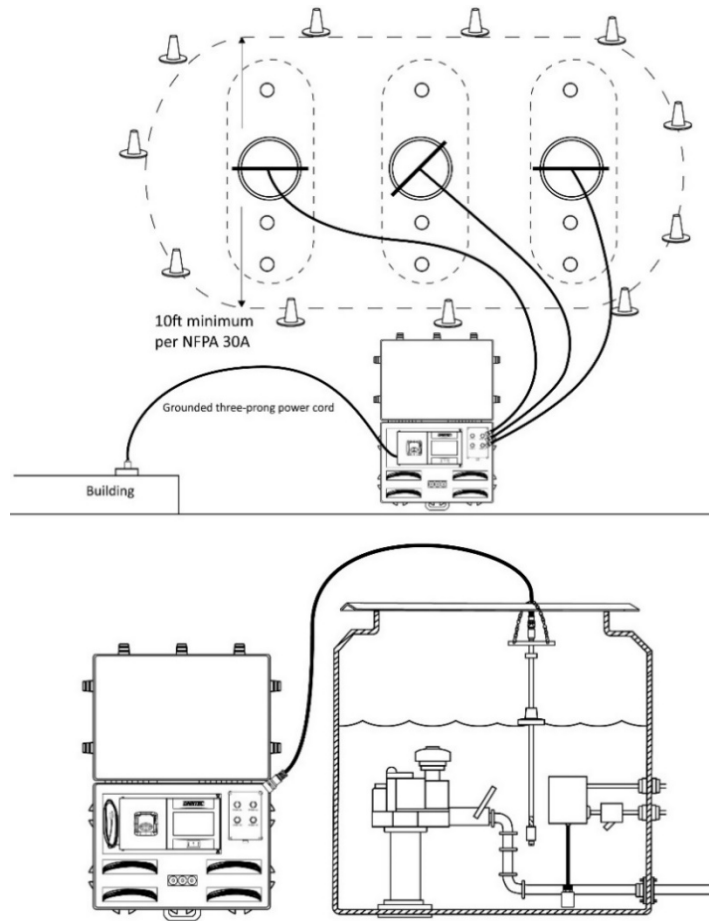

Figure 2.0
III. PREPARING A SITE FOR CLD TESTING (see figures 2.0 and 3.0 for all appropriate, illustrated references)
4. Suspend probe from the angle iron using the attached chain (refer to Figure 2.0 or 3.0). The probe should not contact the bottom of the sump. It must be free to hang vertically.